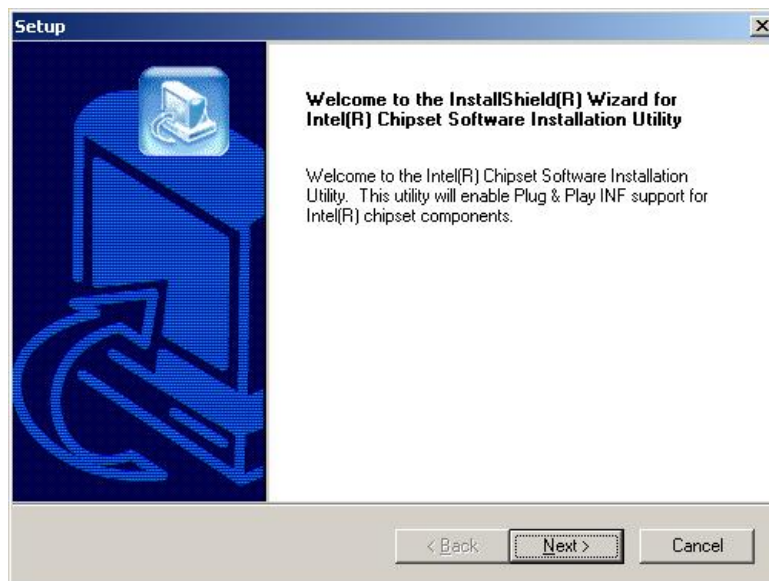

Figure 7-2: Welcome Screen
Step 3: The “Welcome” window in **Figure 7-2** appears next.